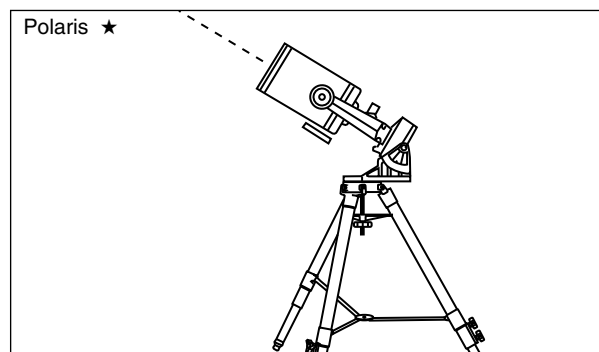

Fig. 25: Mount too high.
- If the star drifts North, (or up) the telescope's polar axis is pointing too high (Fig. 25).